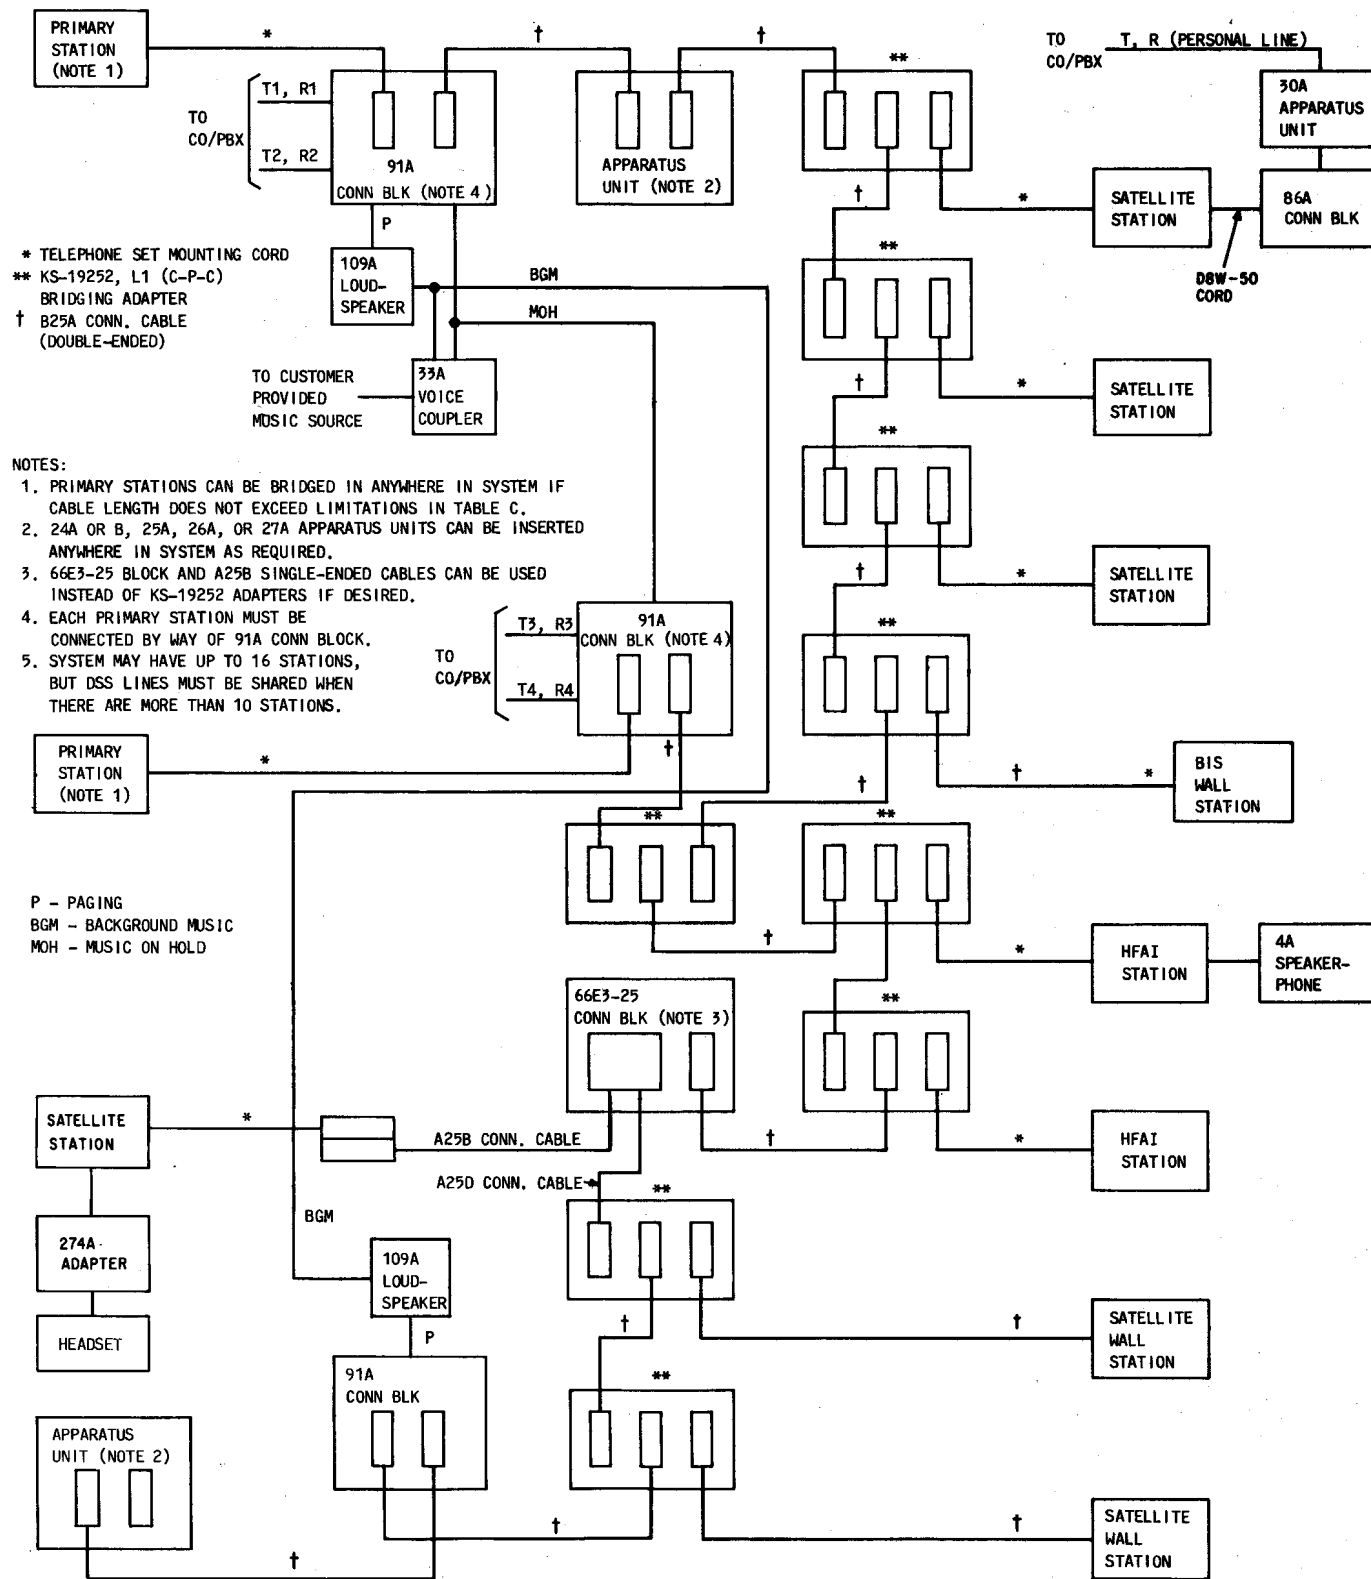
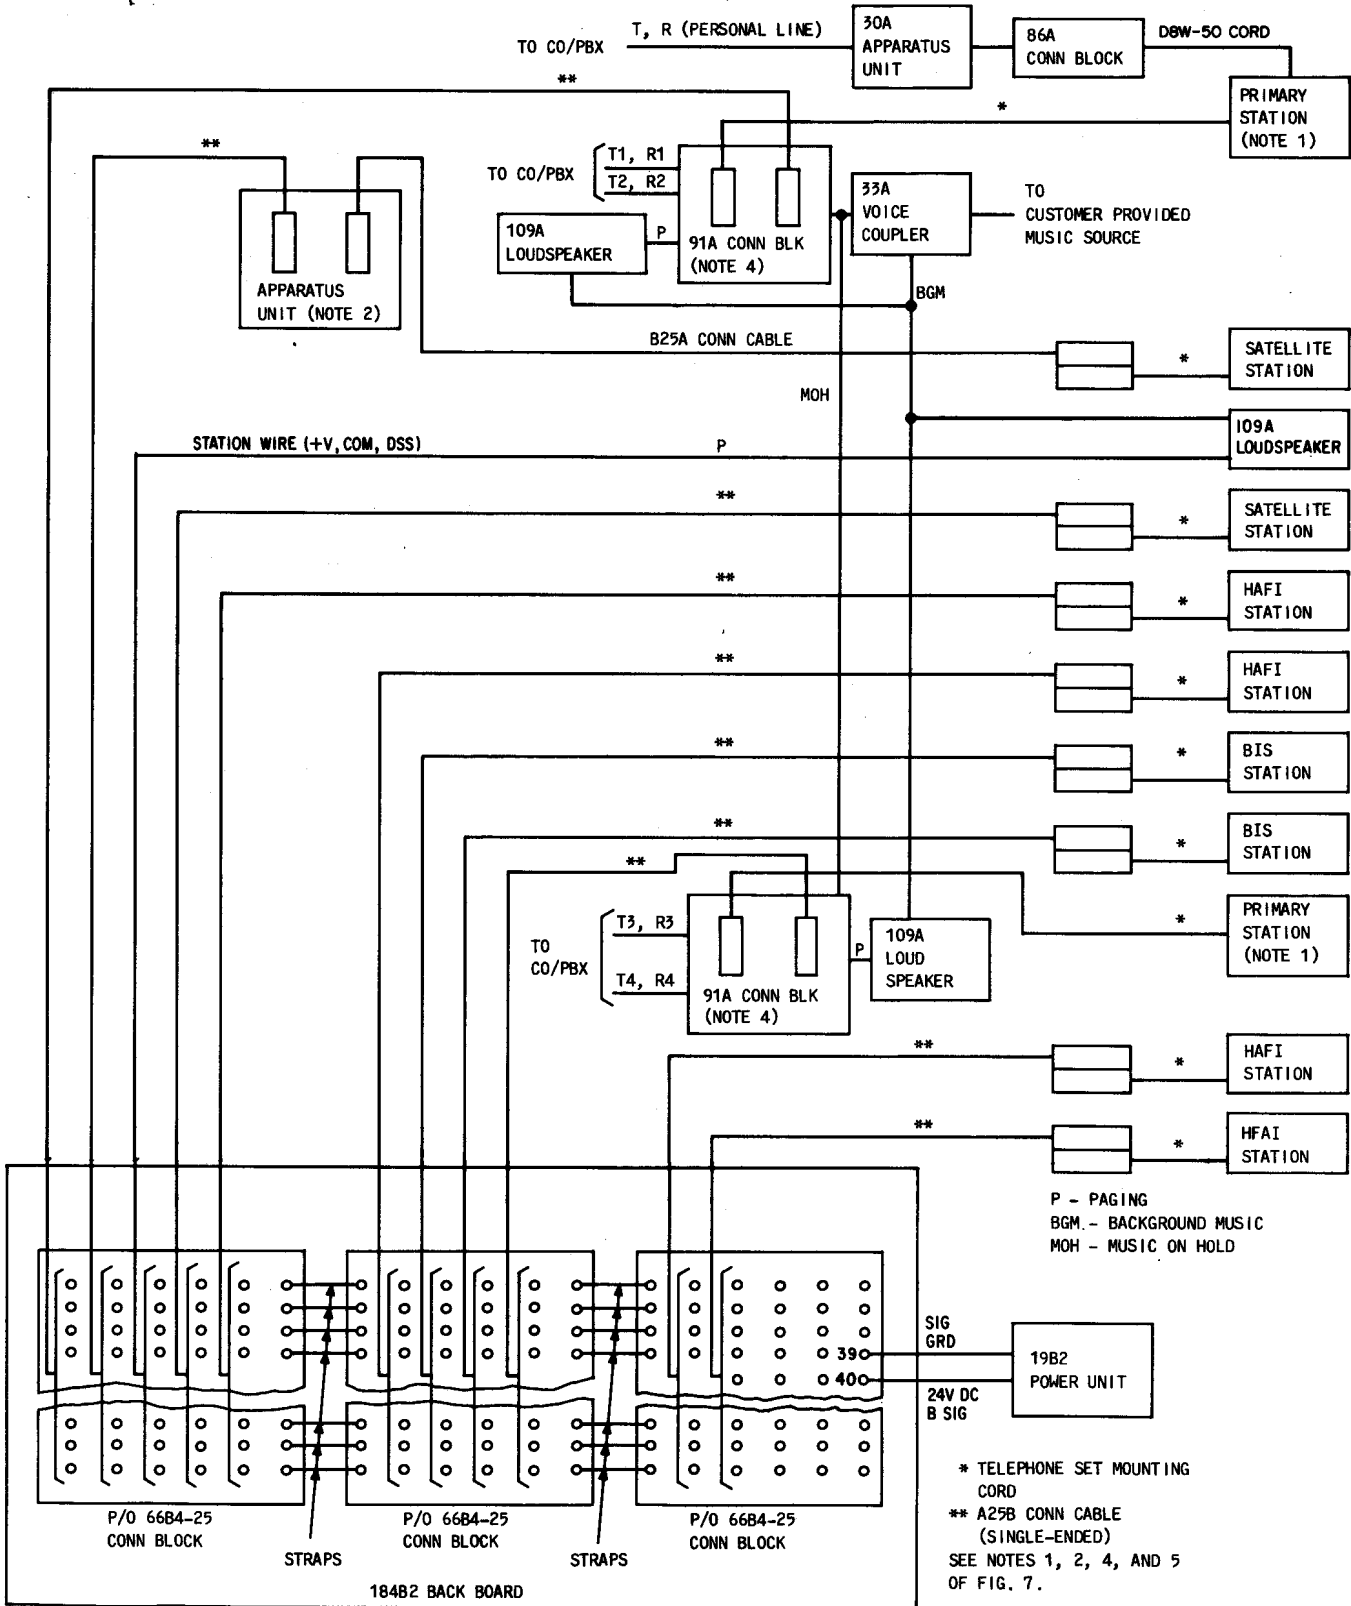

Fig. 7—Typical Installation Using Bridging Connection Method
Fig. 8—Typical Installation Using "Home Run" Connection Method
2.11 Order the following as needed depending on the job wiring requirements (refer to Fig. 7 and 8 for typical connection arrangements):
3.02 Either the bridging method of connecting stations (Fig. 7) or the "home-run" method (Fig. 8) can be used when the 4A System is powered